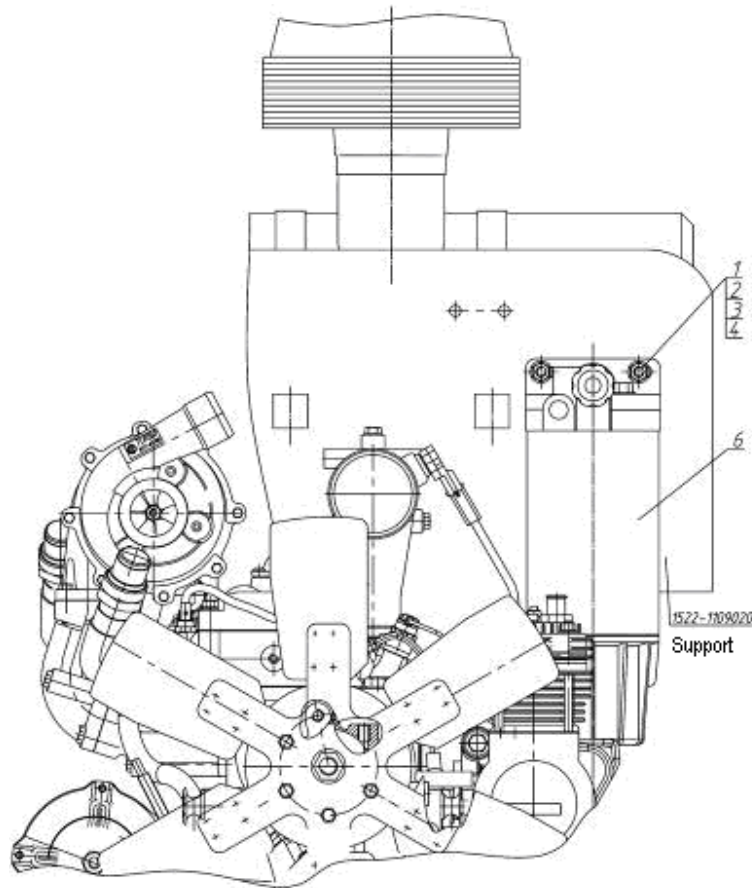

Figure 3.3 Mounting coarse fuel filter on MMZ.
j) disconnect fuel lines from coarse fuel filter 6 (Figure 3.3), installed only on tractor BELARUS 1221.4 with engine MMZ;